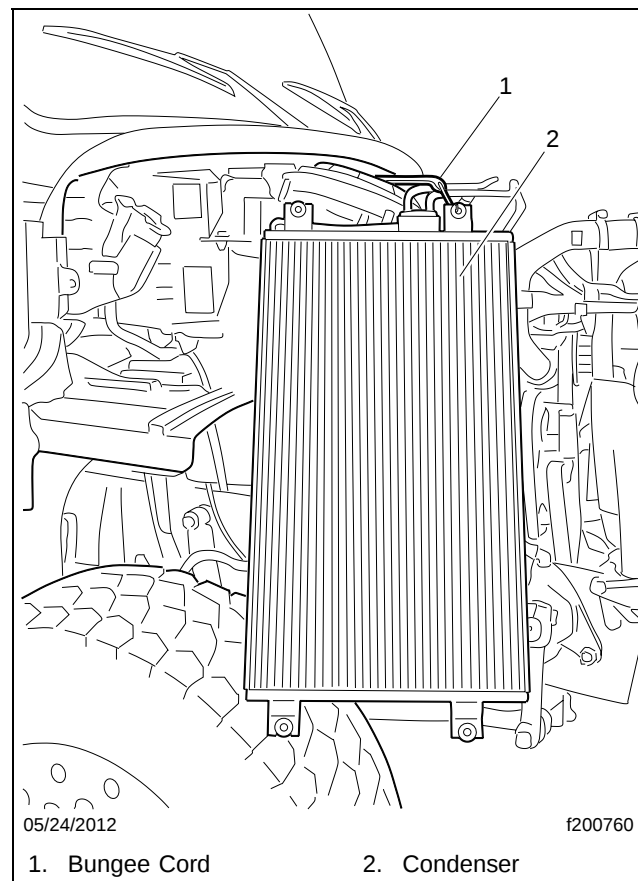

Fig. 4, Securing the A/C Condenser
15.4 Carefully move the condenser around and set it on the right front tire or on top of the engine. Secure it as needed. See **Fig. 4**.